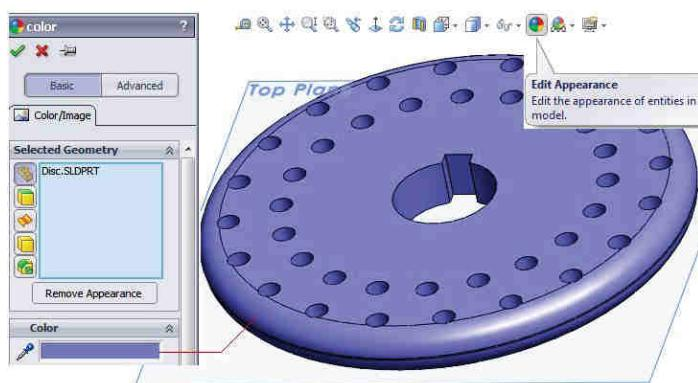

Fig. 3.28
- 4 Modificare culoare disc:** comanda Edit Appearance - Fig. 3.28 - selecție culoare / .
- 4 How to change the disc color:** the Edit Appearance command - Fig. 3.28 – select the color / .